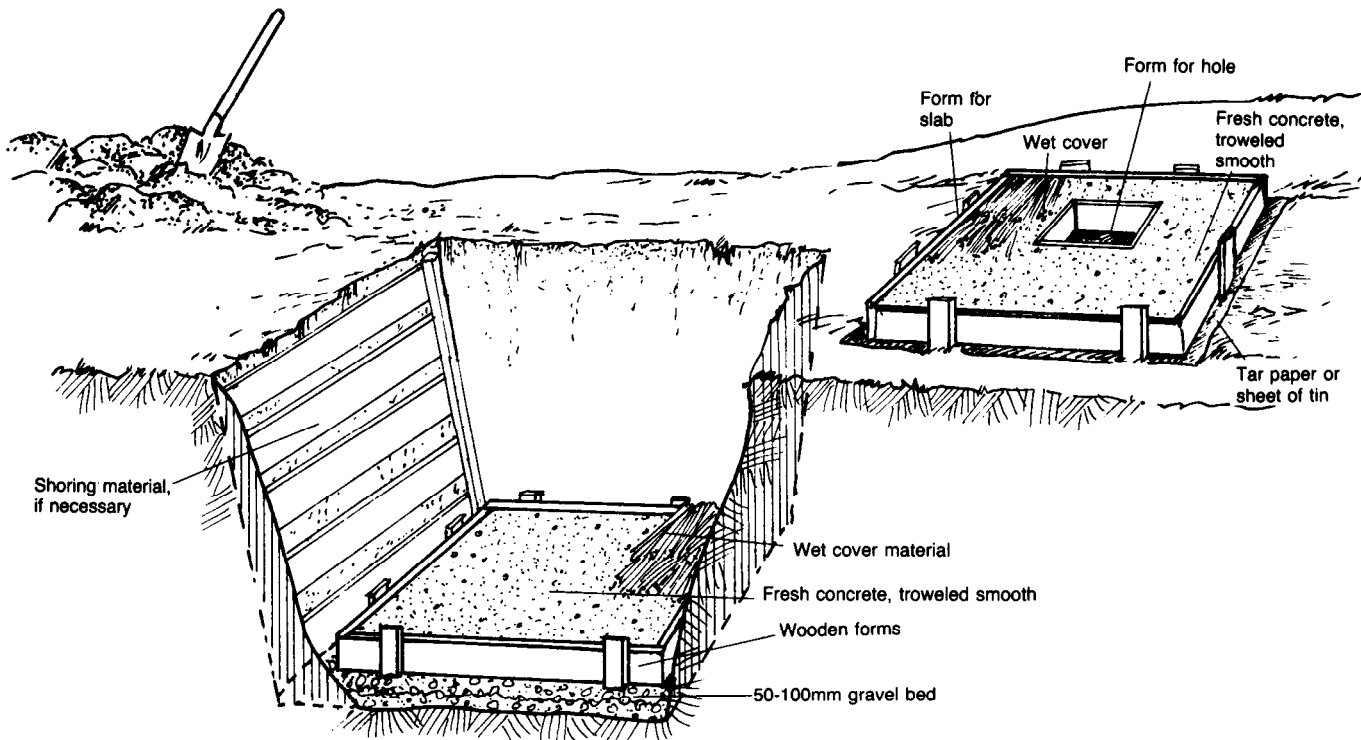

Figure 5. Fresh Concrete in Floor and Slab Forms
5. Build forms for the floor as shown in Figure 5.
8. Cover the fresh concrete with wet straw, burlap bags, or equivalent, and keep moist for three to seven days. See Figure 5.
10. Half-fill the slab forms with concrete, lay in reinforcing material, and fill the forms the rest of the way. Smooth with a trowel and cover with wet straw or burlap. Keep moist for three to seven days. See Figure 5.